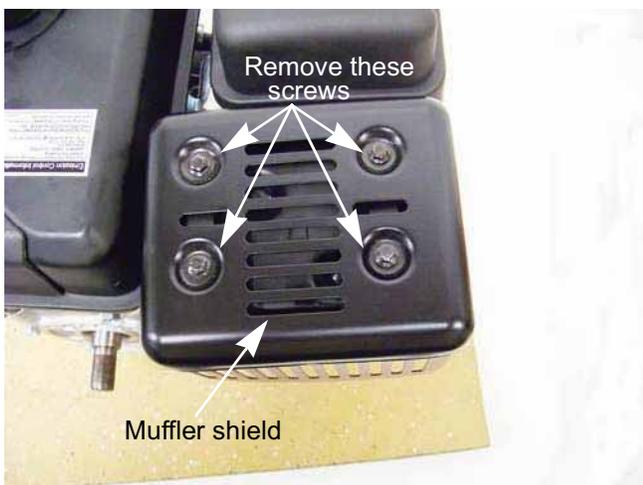

Figure 8.2
1. Remove the four screws that retain the muffler shield using a 8mm wrench and lift it off of the engine. See Figure 8.2.